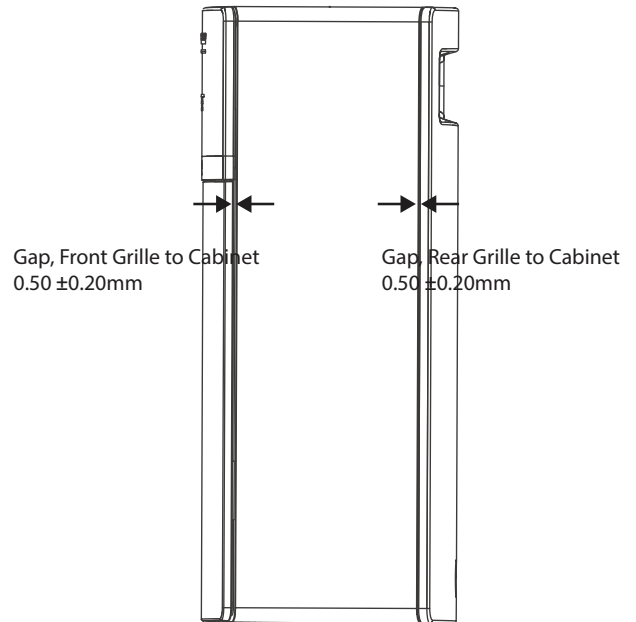

Figure 38. Enclosure, Gaps Spec Side View
7.1 Figure 38. When assembling the enclosure, apply pressure to the rear or front panel of the cabinet to tighten the screws. Failure to properly seat the rear panel will result in an air leak. See Figure 38, for assembly tolerances.